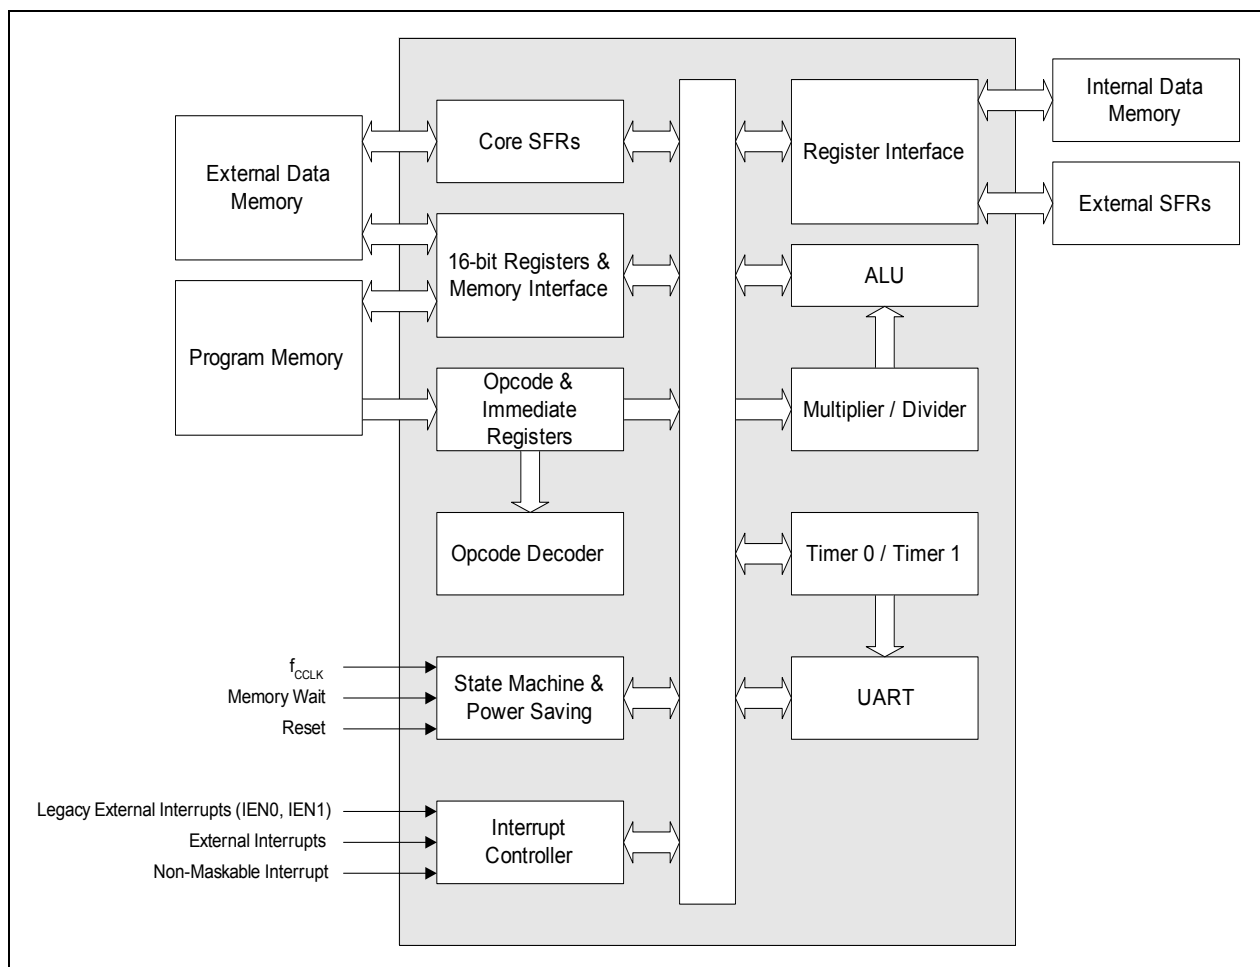

**Figure 6 CPU Block Diagram**
**Figure 6** shows the CPU functional blocks.